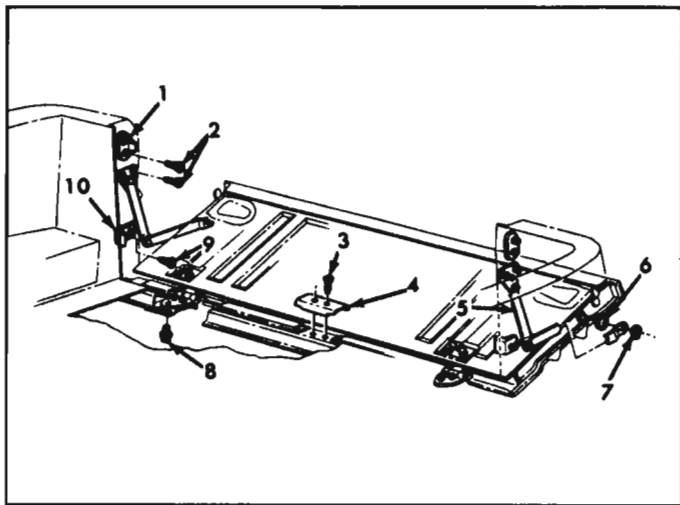

Fig. 10-104a—End Gate Support Assembly
2. Remove support arm retainer ring (7, fig. 10-104a) and disconnect support arms from end gate.
3. Open engine access door and remove three retaining bolts at hinge to engine upper cross member (8, fig. 10-104a).